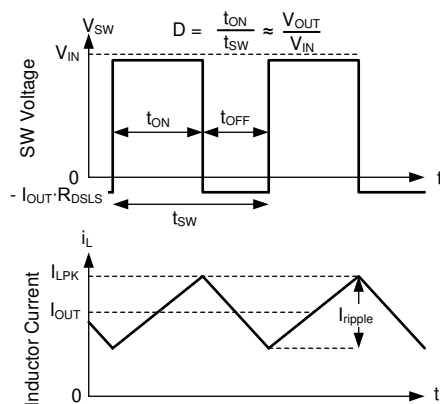

图 9-21. SW Voltage and Inductor Current Waveforms in Continuous Conduction Mode (CCM)
The following operating description of the LM62440-Q1 refers to Figure 9-2 and to the waveforms in Figure 9-21. In CCM, the LM62440-Q1 supplies a regulated output voltage by turning on the internal high-side (HS) and low-side (LS) NMOS switches with varying duty cycle (D). During the HS switch on-time, the SW pin voltage, V_{SW} , swings up to approximately V_{IN} , and the inductor current, i_L , increases with a linear slope. The HS switch is turned off by the control logic. During the HS switch off-time, t_{OFF} , the LS switch is turned on. Inductor current discharges through the LS switch, which forces the V_{SW} to swing below ground by the voltage drop across the LS switch. The converter loop adjusts the duty cycle to maintain a constant output voltage. D is defined by the on-time of the HS switch over the switching period: